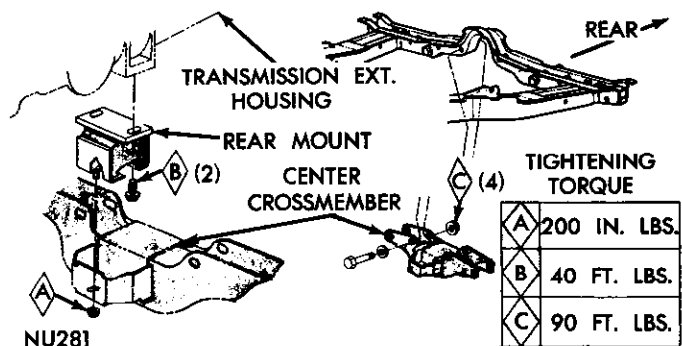

Fig. 2—Engine Rear Support
(1) Install insulator to crossmember.
(2) Install crossmember, tightening attaching bolts to specifications.
(3) Install extension housing mounting bolts tightening to specifications (Fig. 2).
(4) Remove transmission jack and lower vehicle.